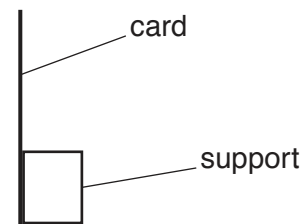

Fig. 2.2
- (iv) Screen. A white sheet of stiff card approximately 150 mm × 150 mm, fixed to a wooden support is suitable (see Fig. 2.2).